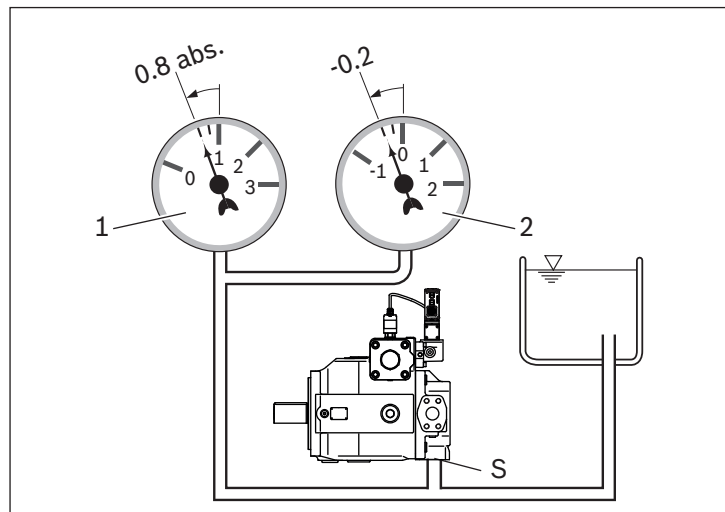

Fig. 11: Suction pressure
- ▶ Make sure that a minimum suction pressure of 0.8 bar abs. (without charge pump) and/or 0.7 bar abs. (with charge pump) is present at port "S" during operation and at cold start, in all installation positions and installation locations for the axial piston pump, see Fig. 11. See data sheet for other pressure values.